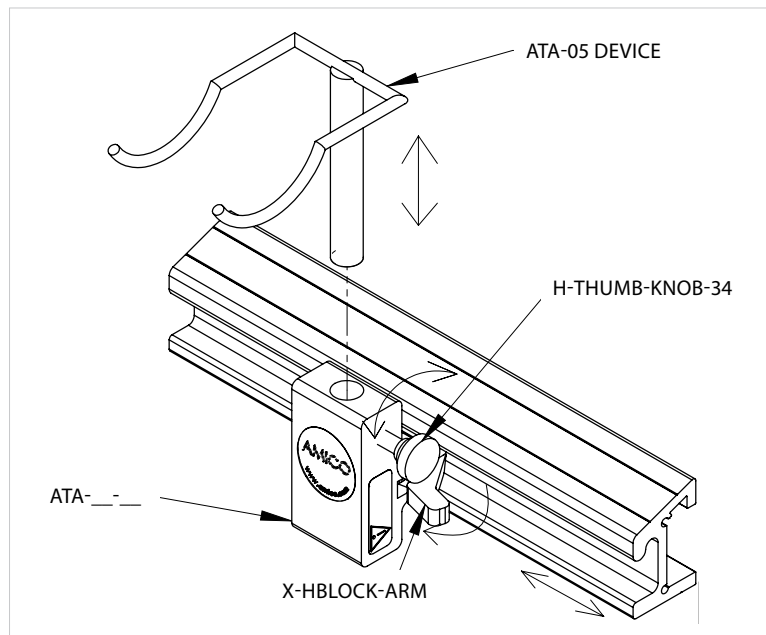

Figure 5
1. To adjust device on ATA-05, loosen H-THUMB-KNOB-34 by turning it counter-clockwise, adjust ATA-05 device to desired height (slide the device slowly and ensure enough post is tightened by THE H-THUMB-KNOB-34) and rotate H-THUMB-KNOB-34 in clockwise direction to lock device position. **(Figure 5)**
2. To adjust ATA-__-__ position on rail, pull the X-HBLOCK-ARM and slide the ATA-__-__ left or right to desired position **(Figure 5)** and release the X-HBLOCK-ARM and push to original position to lock ATA-__-__ in place. Check the ATA-__-__ to ensure it is securely mounted by pulling up/down on it and ensuring it does not pull off the rail.